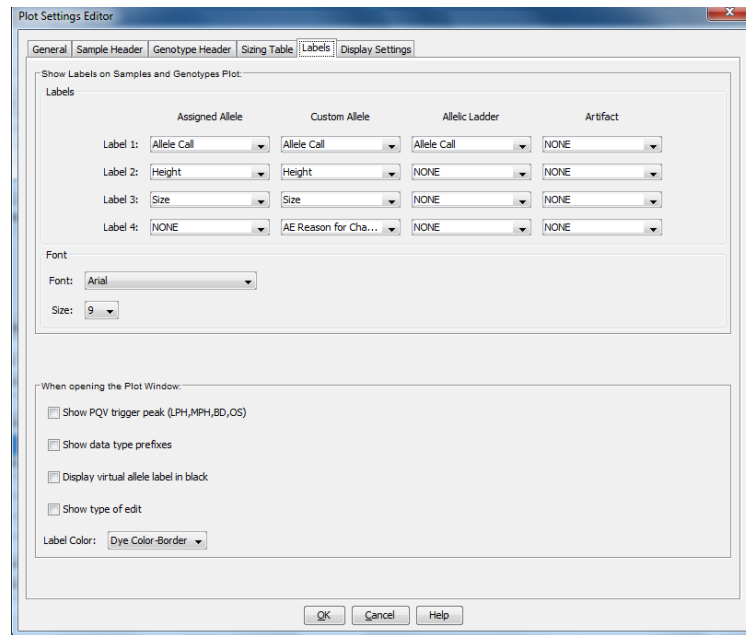

Figure 5. “Labels” screen of the Plot Settings Editor.
- 4.12.3 If any allele designation is changed from “OL” to a custom designation, then “FROM OL” must be entered into the Allele edit comment. Figure 5 below shows how the Plot Settings Editor>Labels>Custom Allele must be set in order to display the allele edit comment for microvariants.